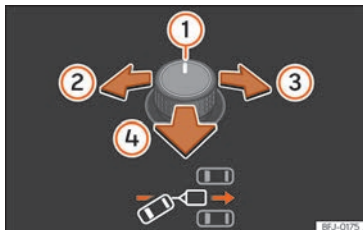
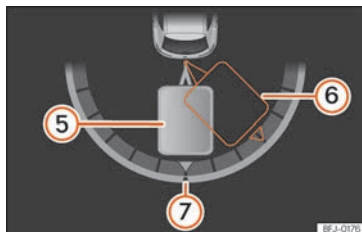

Fig. 211 Rotary exterior mirror controls.: adjust the trailer angle.
Fig. 212 Instrument panel display: engage reverse gear
Key of the **Fig. 211**, **»» Fig. 212:**
• Tilt the rotary control until the desired direction is reached **»» Fig. 211**. A representation of the tow vehicle and trailer set is shown on the instrument cluster screen for guidance purposes **»» Fig. 212**.